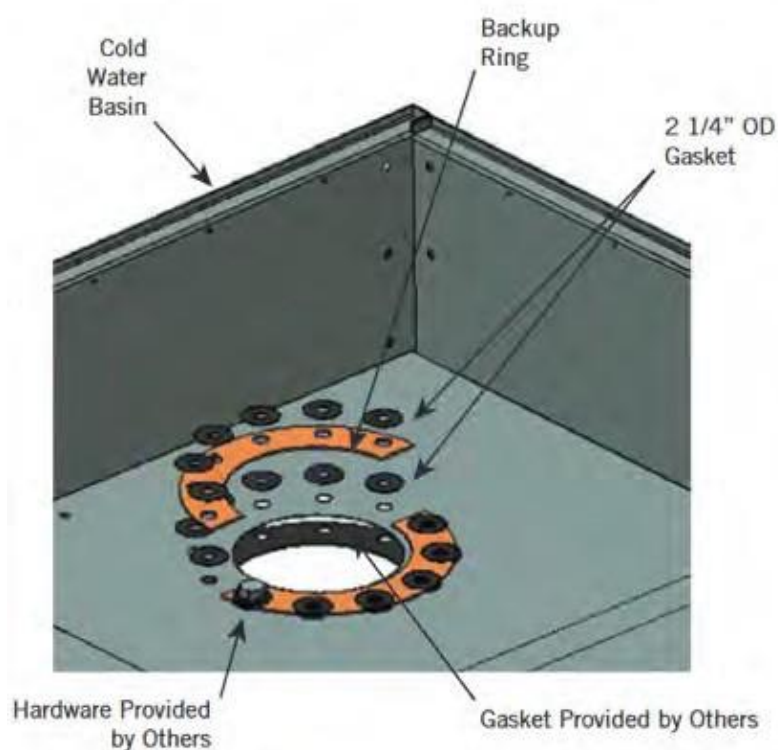

Figure 8. Bottom Water Outlet
1. The bottom connection seal, **Figure 8**, is typical for all bottom remote sump outlets. Flange mounting hardware and gasket to be supplied by others.